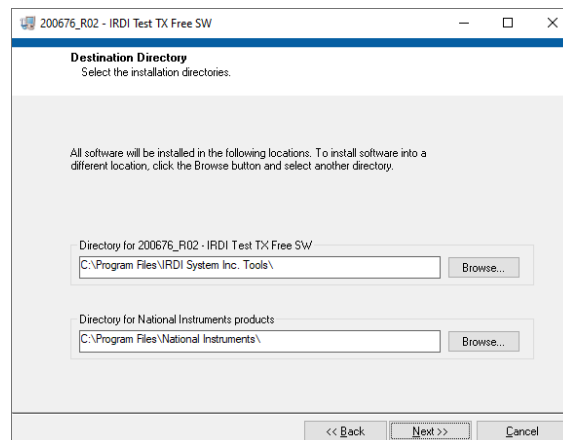

FIGURE 4-6 DESTINATION DIRECTORY
STEP 2	Select Destination Directory – see Figure 4-6. Click Next >>.